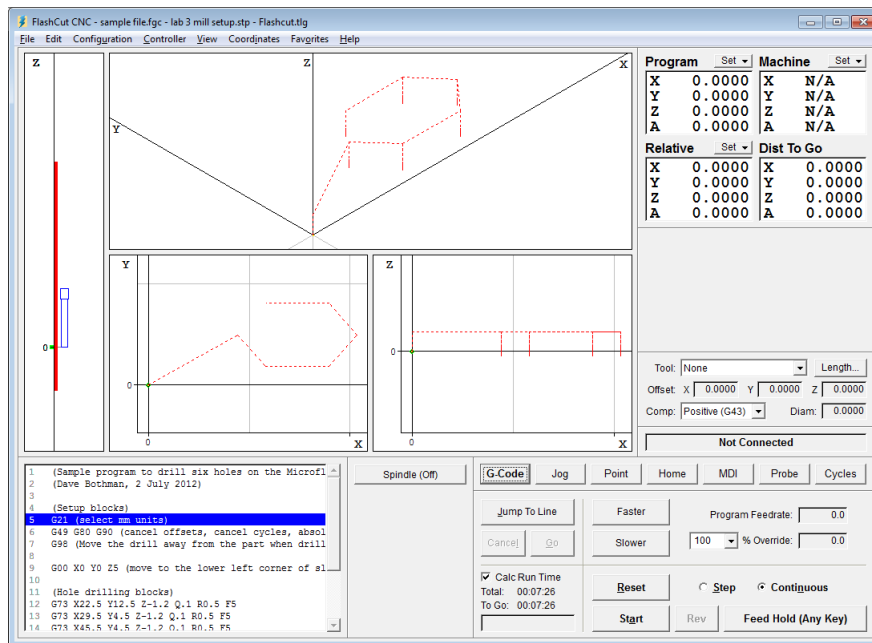

Figure 5- Flashcut CNC Screen Shot – Program DRO is in the upper-right hand corner
8. Set the **program X and Y** coordinates to zero (figure 5)